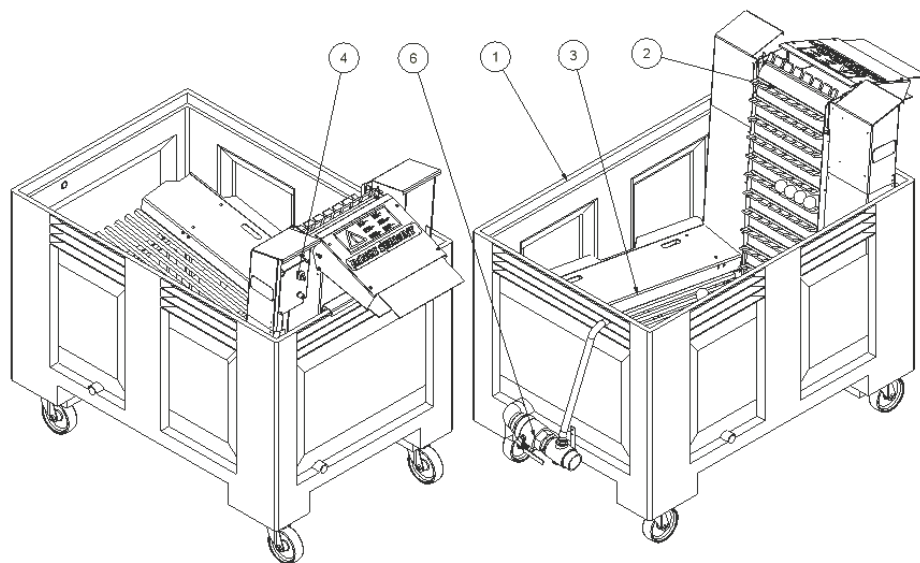

Figure 5: Main Components.
- III. Position the Pre Soaker with the elevator outlet to the ball washer it will be feed in to. If the standard Range Servant washer bin is not to be used for space consideration, mount the special Pre Soaker connection that was supplied, to the ball washer inlet using the two screws and lock nuts. Make sure that the two lockable swivel casters are in the locked position. See Figure 5: Position of Pre Soaker to Ball Washer.